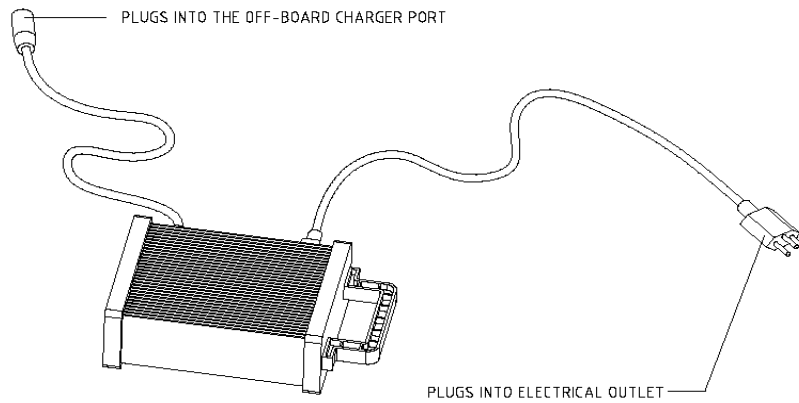

Figure 8: Battery Charger
### **CHARGING BATTERIES** (see Figure 8)
1. Squeeze the tiller adjustment lever. See figure 8.